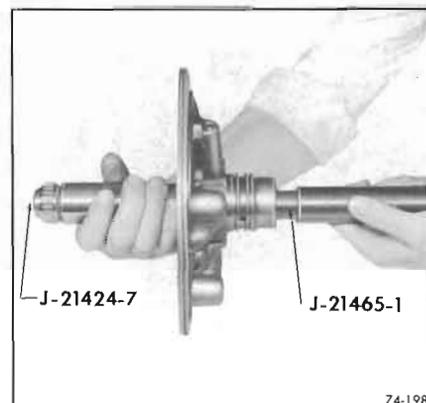

Figure 74-198
15. Check stator shaft bushing for nicks, severe scoring or wear. If bushing replacement is necessary remove as follows: Assemble Bushing Remover J-21424-7 to Extension J-21465-13. Assemble this assembly to Drive Handle J-8092. Grasp stator shaft with hand using other hand and assembled tools drive out bushing. See Figure 74-198.